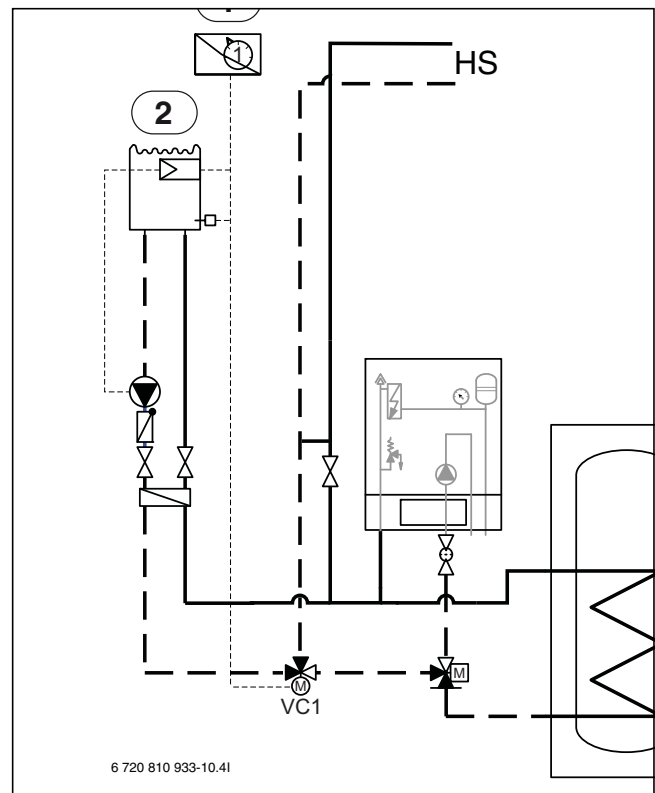

Fig. 8 Pool installation example
- ▶ Install the mixing valve for pool on the return pipe to the heat pump module (→ [VC1] Bild 8).